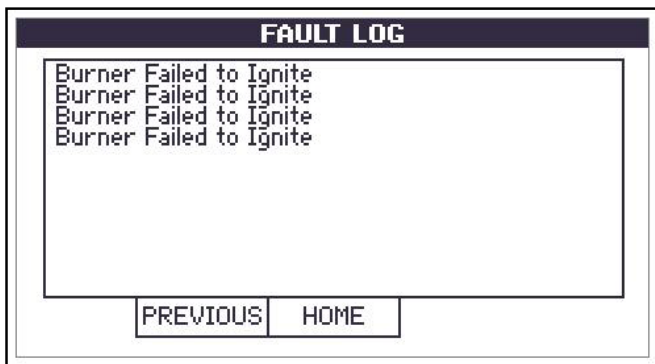

Figure 133
- Check the Reporter for any faults (see Figure 133)